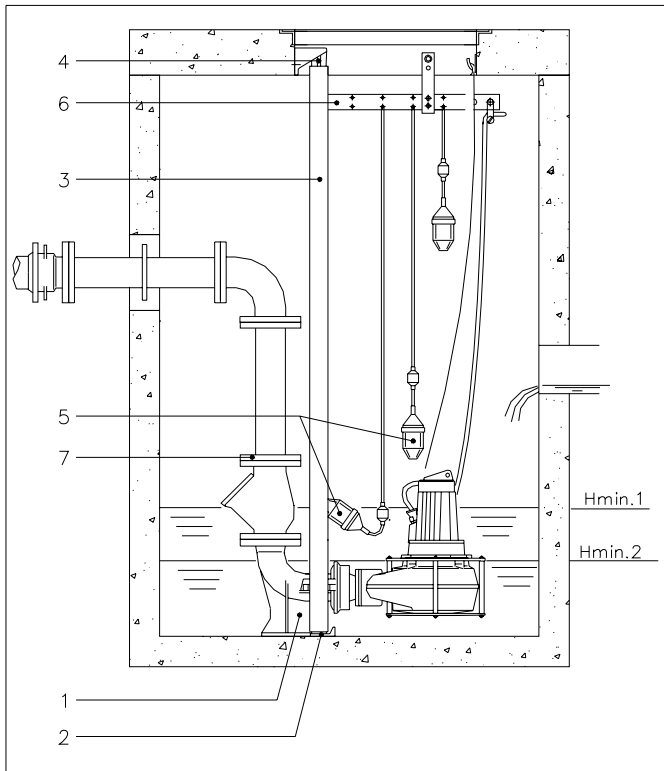

Fig. 6.3
- Check that the motor is adequately cooled. The motor housing should be at least 2/3 submerged for continuous operation at full load (see Hmin.1 Fig. 6.3).
It is good practice, whenever possible to keep the motor housing completely under water. For interrupted level controlled operation, less cooling is required. We recommend not to run the pump with the water level below the top of the volute in order to avoid air being drawn in (see Hmin.2 Fig. 6.3). Air in the discharge pipes might impair performance.